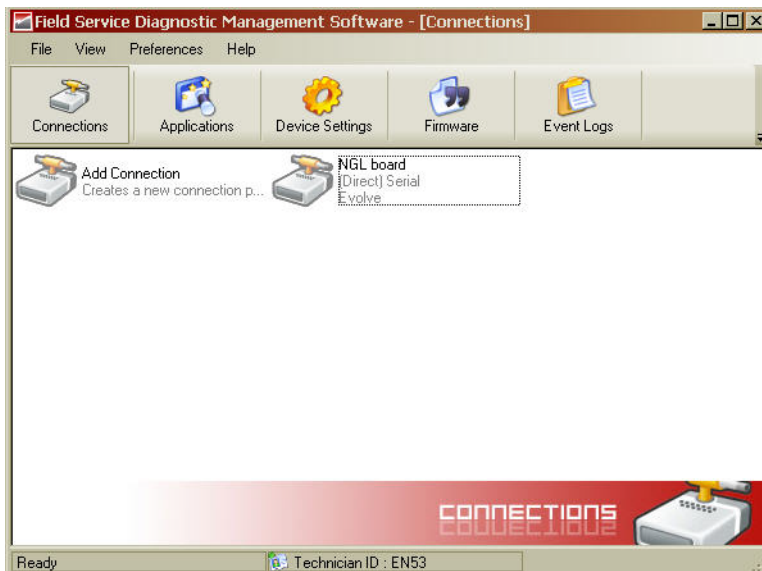

Figure 5.2 NGL board Added as a New Connection
5. Click **Finish** to complete the new connection setup. A new icon titled "NGL board" appears in the DMS Connections window (shown in Figure 5-2).